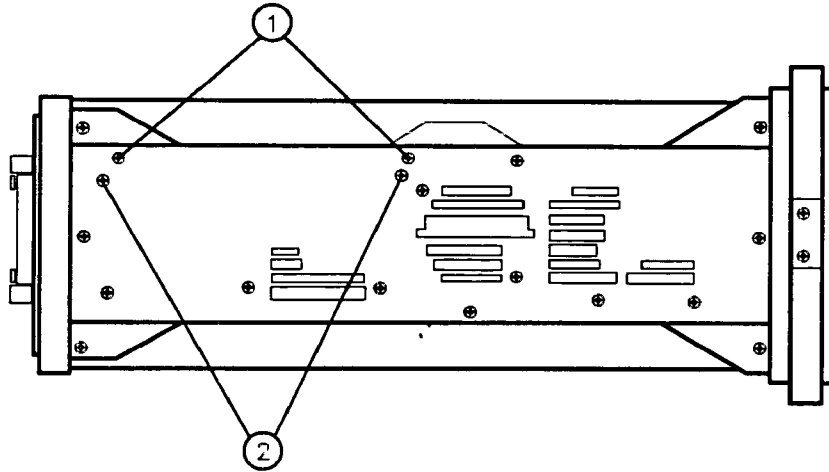

Figure 3-14. A17 CRT Driver Mounting Screws
10. Remove the two screws (1) securing two board-mounting posts to the left-side frame and remove the posts. See Figure 3-14.
11. Remove the two left-side frame screws (2) securing the A16 and A17 assemblies.
9. Secure the A16 and A17 assemblies with the two flathead screws removed in "Removal" step 11. See Figure 3-14.